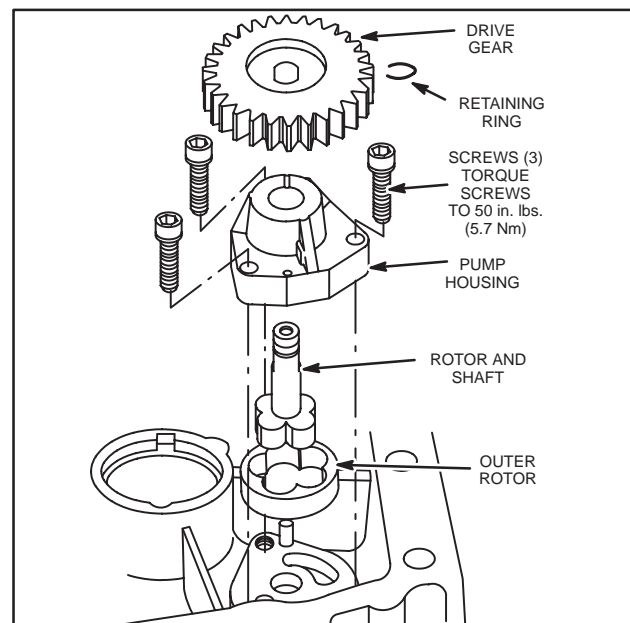

Fig. 33 – Remove Oil Pump
3. Remove the three (3) pump mounting screws.
4. Remove the pump assembly and check the rotors and shaft, Fig. 33.